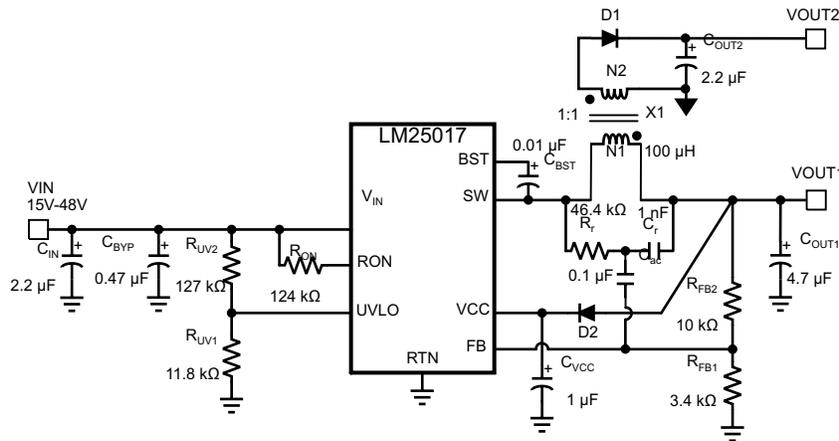

Figure 17. Typical Isolated Application Schematic
An isolated supply using LM25017 is shown in Figure 17. Inductor (L) in a typical buck circuit is replaced with a coupled inductor (X1). A diode (D1) is used to rectify the voltage on a secondary output. The nominal voltage at the secondary output (VOUT2) is given by Equation 17.